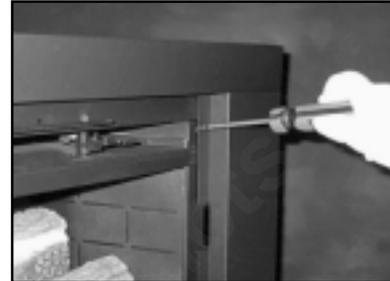

Figure 15
4. Slide the surround against the face of the appliance, aligning the holes in the upper and lower, right and left corners and secure the surround to the appliance with the attachment screws. See Figure 15. If optional surround bottom is used, go to Step 5. If surround bottom is not used, slide the appliance back until the surround is tight to the fireplace. Route power cord away from the appliance.